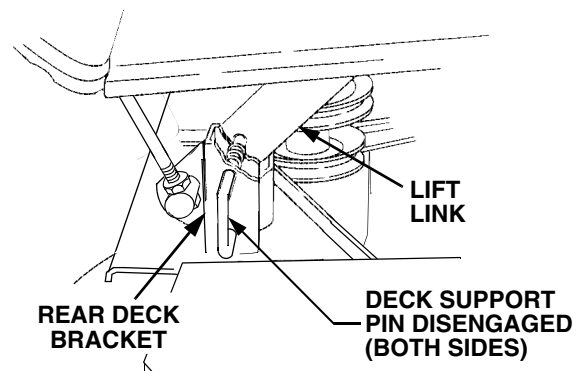

Figure 42
6. Pull the deck support pins outward, turn downward and release so both spring-loaded pins are held in the disengaged position against the outer surface of the deck brackets (See Figure 42).